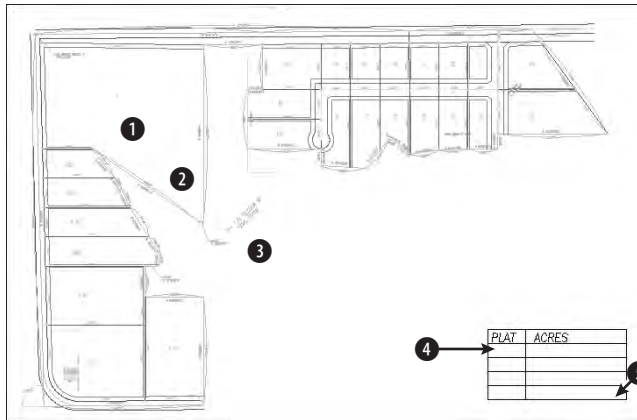

Figure 13-19: The plat drawing
2. Save the file as ab13-05.dwg in your AutoCAD Bible folder. This is a plat drawing, as shown in Figure 13-19.
3. Choose Multiline Text from the Draw toolbar. At the prompts, pick points ① and ② in Figure 13-19. The Multiline Text Editor opens. In the Text Height box, change the height to **12.5**. In the main editing box, type the following:
Specify first corner: Pick ④ in Figure 13-19.
Specify opposite corner or [Height/Justify/Line spacing/Rotation/Style/Width]: Pick ⑤ in Figure 13-19.
9. Open Windows Explorer (Usually Start ⇨ Programs ⇨ Windows Explorer). Find `ab13.txt` on your CD-ROM. Move the Windows Explorer window so that you can see both `ab13.txt` and your AutoCAD screen. Drag `ab13.txt` from the Windows Explorer window to ❸ in Figure 13-19. If necessary, pick a grip, press the Spacebar once to choose the Move option and click at the proper location.